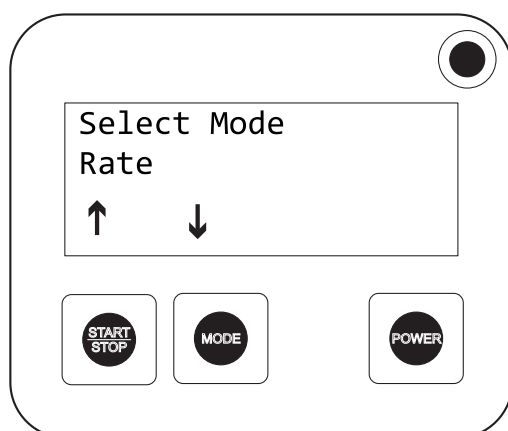

Figure 8 Select mode screen
1. Press the **MODE** key once on the Main screen. Refer to Table 2 on page 18 for the different modes available. The bottom line displays the current mode (refer to Figure 8 on page 18).